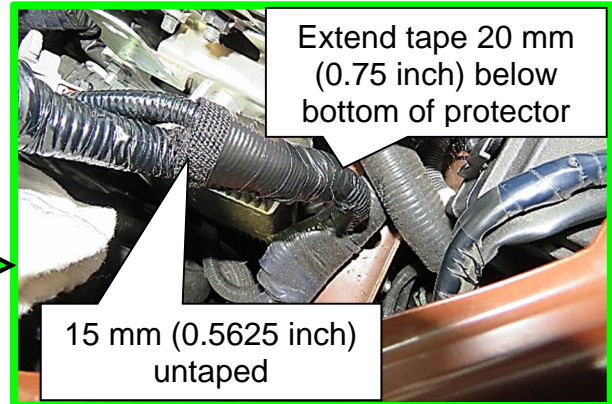

Figure 17
- Allow a 15 mm (**0.5625 inch**) section at the top of the wire harness protector to be untaped, as shown in Figure 17. This will allow movement of the wire harness branches to ease the installation of the wire harness electrical connector mounting clips to the ECM/TCM bracket.
- The tape should extend approximately 20 mm (**0.75 inch**) below the bottom of the wire harness protector, as shown in Figure 17.